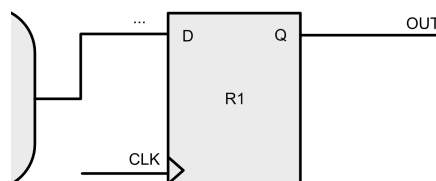

Figure 5
4. Give more thought on where the condition t_1 taught in class fits in the circuit in Figure 5, i.e: which components have to conform to t_1 ?⁴